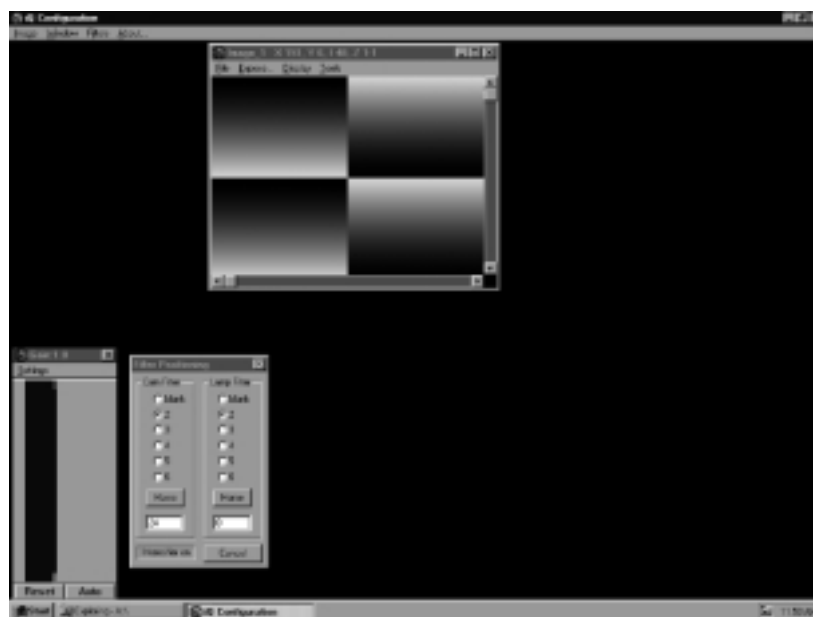

Fig. 6.1. iQ configuration window, showing the image, gain, and filter positioning dialog boxes.
This brings up the iQ Configuration window and two dialog boxes: the Image dialog box and the Gain dialog box (see Figure 6.1.)
3. From the menu bar at the top of the screen, select **Filters**, and then select **Positioning**. This brings up the Filter Positioning dialog box (see Figure 6.1).
- From the menu bar at the top of the screen, select **Filters**, and then select **Positioning**. This brings up the Filter Positioning dialog box (see Figure 6.1).